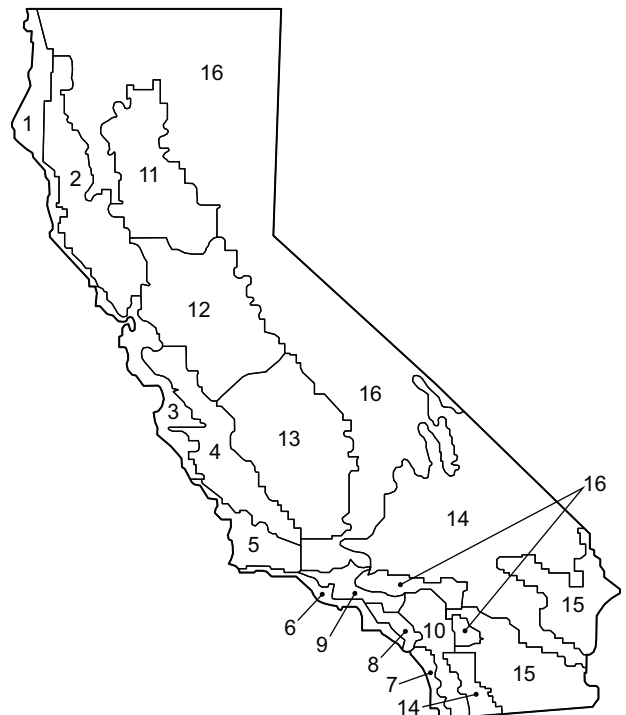

Fig. 74 – California Title 24 Zones
b. See Fig. 74 for map of California Title 24 zones.